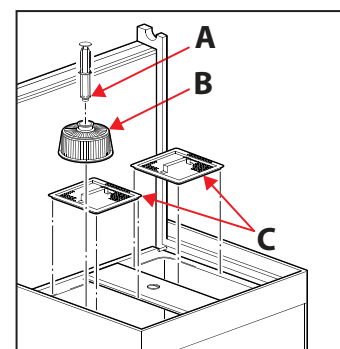

Fig.2
- To empty the wash tank turn the machine to STAND-BY (1). Remove the strainer plates (C) while being careful not to allow food residue to drop inside the wash tank. Remove the overflow pipe (A) to drain the tank.
- Firstly, make sure that the water has been drained from the wash tank. Remove any (food) particles from the base of the wash tank and only then remove the plastic filter (B) Fig.2. Clean the strainer plates and the filter with a stiff brush under running water. Make sure that no particles fall into the filter opening.